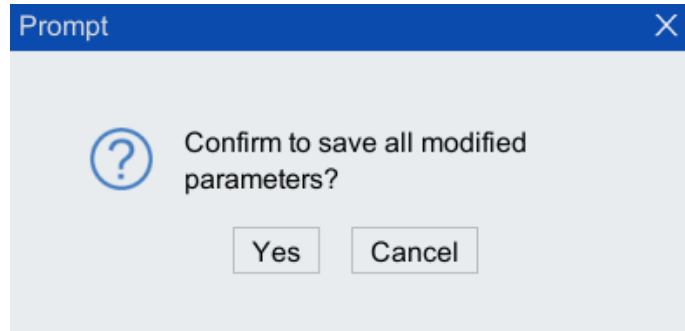

Figure 4-13 Confirm to save the modification prompt box
Step8. Click <Yes> in the prompt dialog box that pops up. As shown in Figure 4-13.